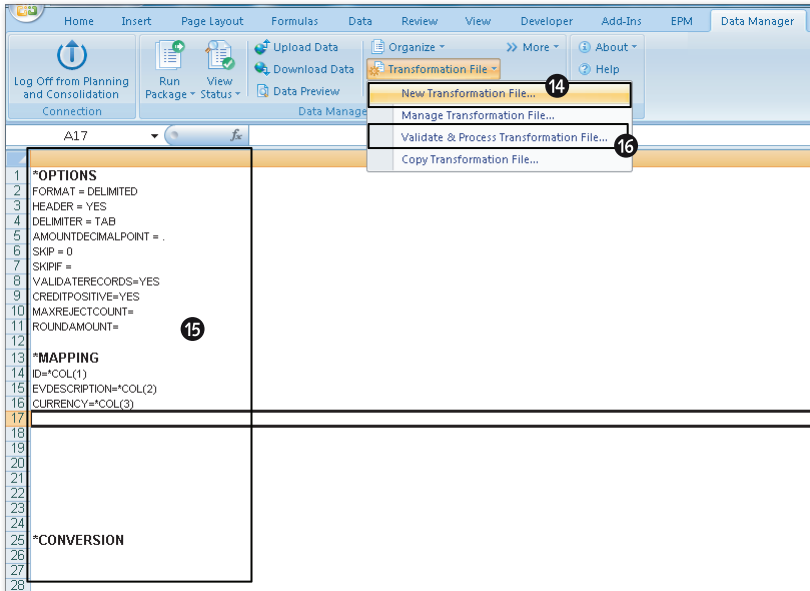
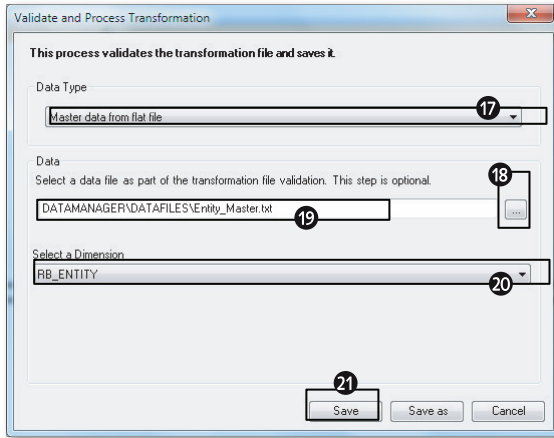

Figure 4.19 Loading Master Data from a Flat File into a Dimension—Part E
Figure 4.20 Loading Master Data from a Flat File into a Dimension—Part F
8. You're now ready to create a transformation file to define the structure of the file you'll use to load data into the Entity dimension. From the TRANSFORMATION FILE menu option, select NEW TRANSFORMATION FILE (Figure 4.19, 14).
in the *OPTIONS section. No data conversion is involved, so we won't use the CONVERSION section. The transformation file is defined as shown in Figure 4.19 (15). From the TRANSFORMATION FILE menu option, select VALIDATE & PROCESS TRANSFORMATION FILE to validate and save the transformation file (Figure 4.19, 16). This opens the VALIDATE & PROCESS TRANSFORMATION dialog box (Figure 4.20).
10. In the VALIDATE AND PROCESS TRANSFORMATION dialog box, select the DATA TYPE for which this transformation file should be used (Figure 4.20, 17), the DATA file that should be used as the source for verifying this load (Figure 4.19, 18 and 19), and the technical name of the dimension into which the data should be loaded (Figure 4.20, 20). Click on SAVE (Figure 4.20, 21).